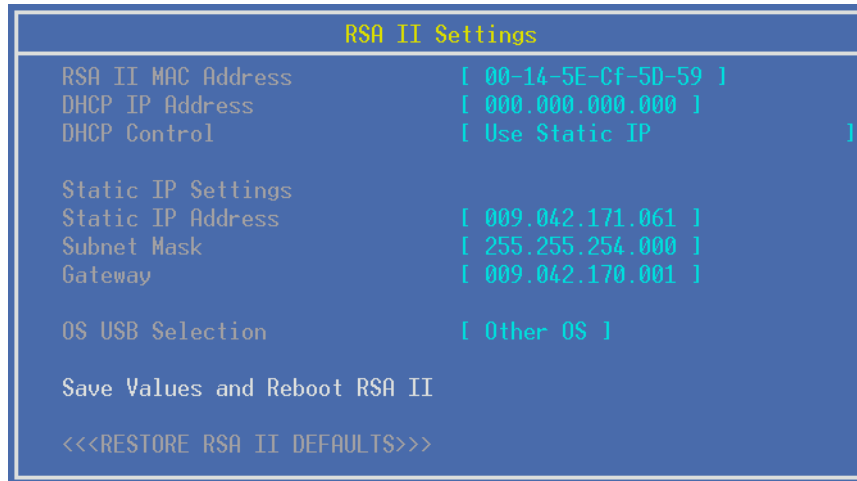

Figure 6-14 BIOS: RSA II configuration settings
2. Select the **Advanced Setup** → **RSA II Settings**. The RSA II menu opens, as shown in Figure 6-14 on page 320.
Using remote media enables USB support after the server is powered up and the RSA II is initialized. During installation of the operating system or in the operating system support, USB is required. The correct setting for earlier USB support has can be done in the RSA II Settings menu, shown in Figure 6-14 on page 320.